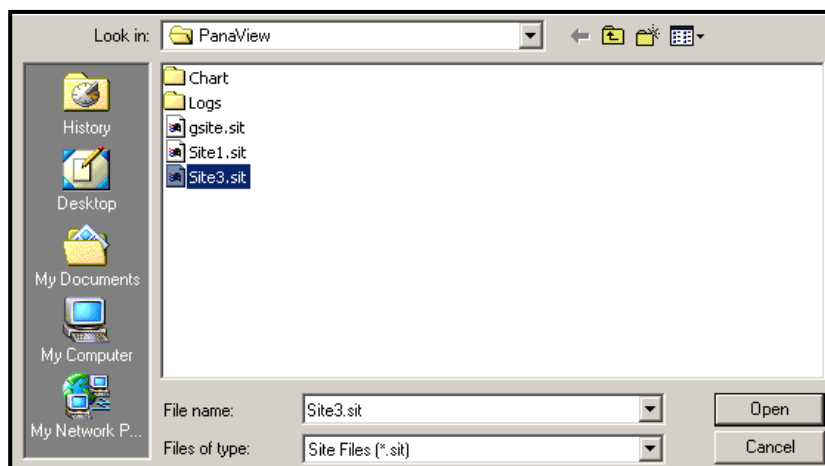

Figure 31: Site File Selection
2. Then click on the *Save Site to Meter* button. A screen opens similar to Figure 31 below.
3. The *Site File Selection* window (Figure 31 on page 100) opens. Highlight a site with the desired settings, and click **[Open]**. PanaView saves the site in the meter with the new name and the desired settings.
3. The *Site File Selection* window (see Figure 31 on page 100) opens. Enter the desired site name (now with a .prt suffix) and click **[Save]**. PanaView displays a text version of the site, as shown in Figure 33 below.